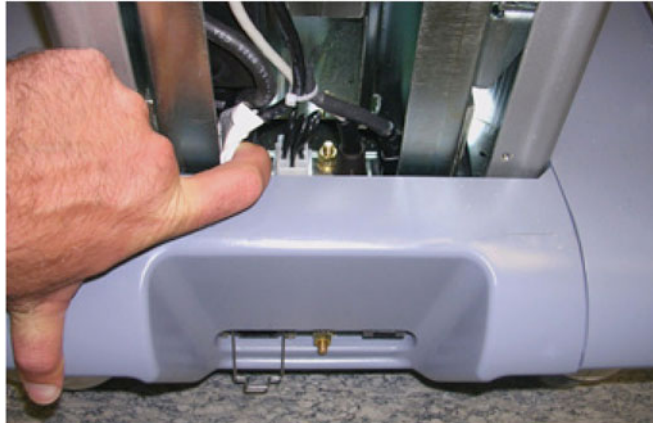

Figure 3-12 Jumper on AC Unit
- 2.) Remove the bottom cover (rear) from the SafeLock Cart to provide access to the jumper on the AC unit. See Figure 3-12 below.